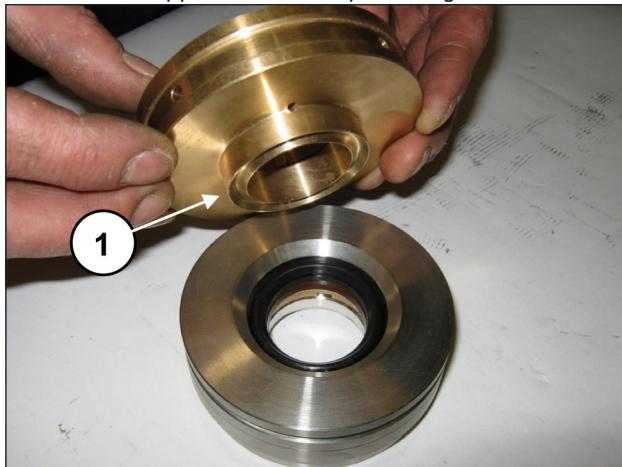

Fig. 181
Join the seals support to the liner (pos. ①, Fig. 181).